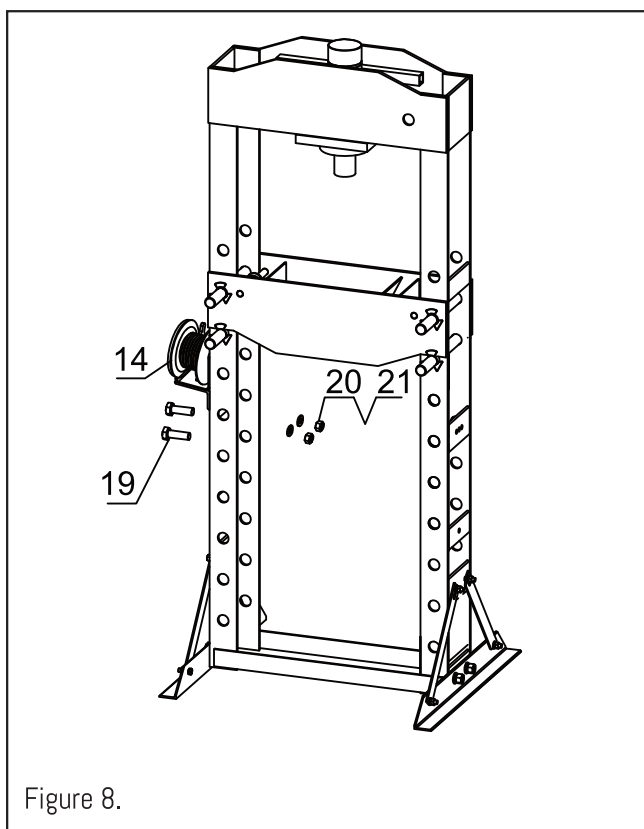

Figure 8.
4. Attach the Winch (14) to the Frame using the Bolts (19), Washers (20), and Nuts (21). See Figure 8.